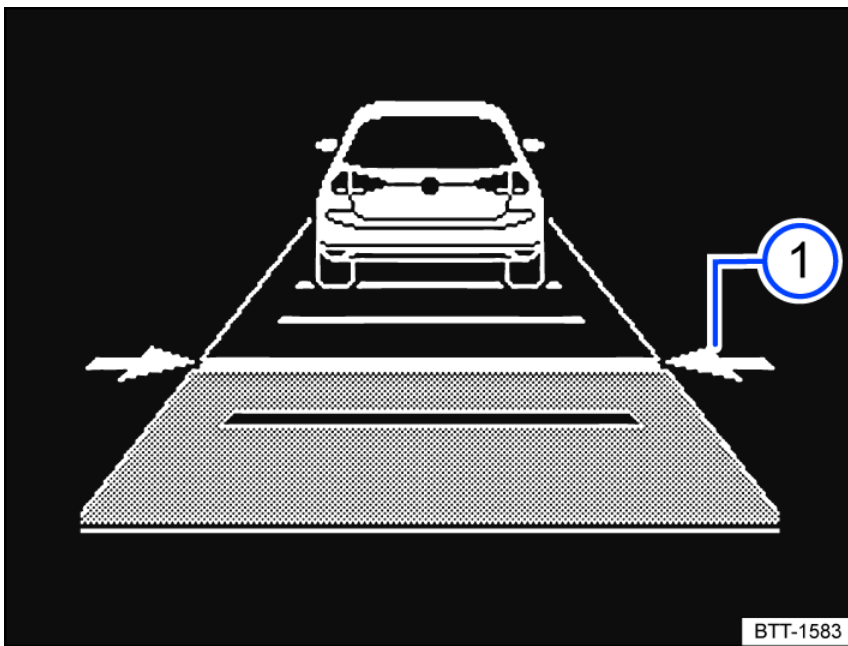

Fig. 133 In the instrument cluster display: set distance ① (general example, ACC is regulating).
The instrument cluster display shows the selected level fig. 133 ①. Heed the country-specific regulations for minimum distance.